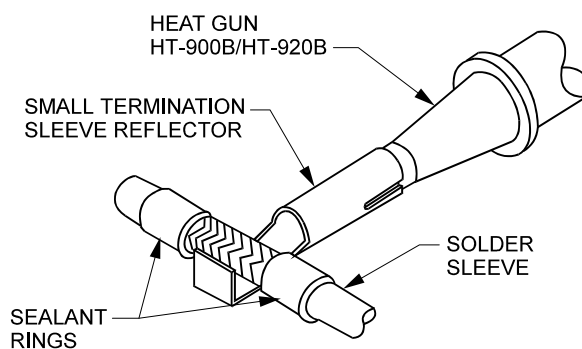

Figure 3-32 Installation of the M83519/1 Solder Sleeve
- c. Apply heat directly at the solder preform using a suitable heat gun deflector. Remove from heat when the solder melts and wets to the shield braid and ground lead, as illustrated in Figure 3-32.